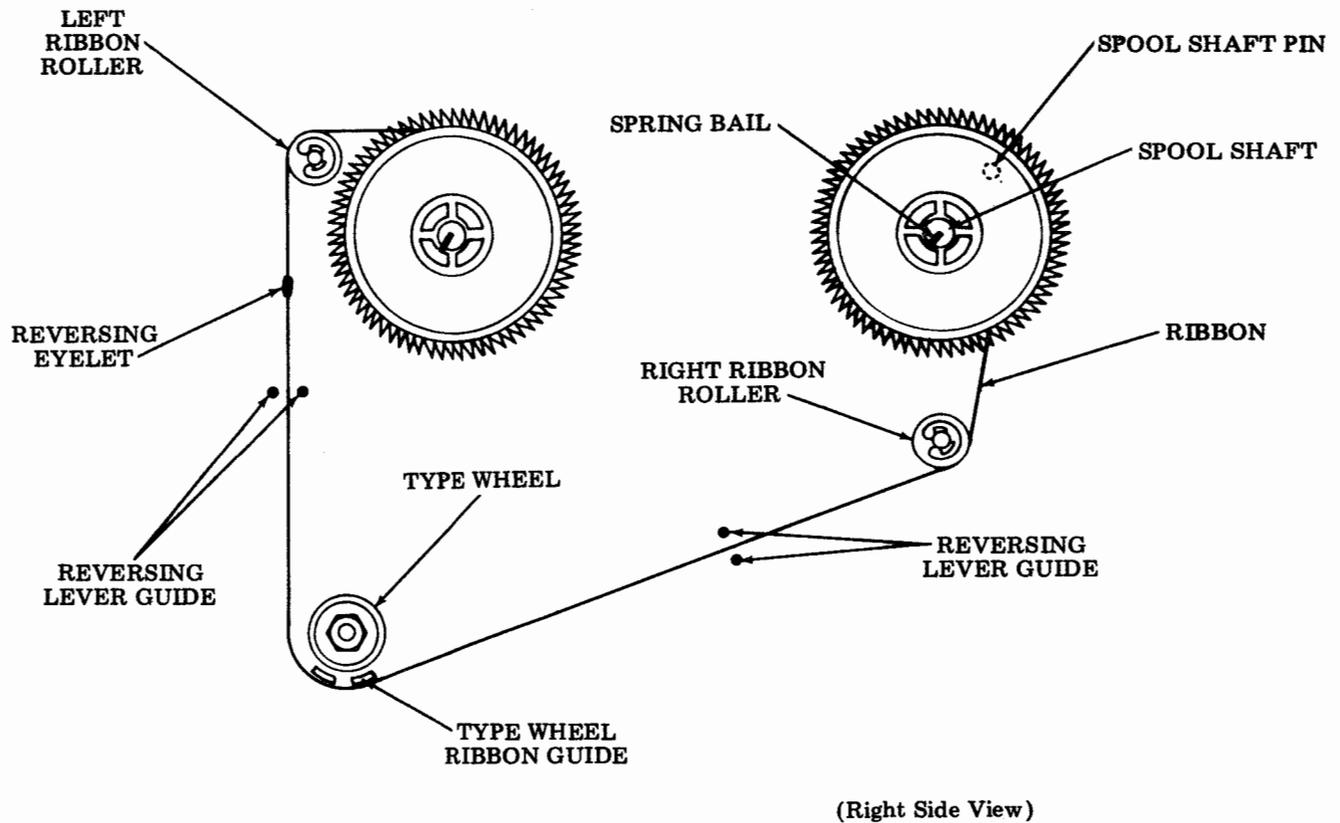

Figure 21 - Reperforator Ribbon Routing
4.29 To route the new reperfector ribbon, straighten the spring bail and lift the spool off the shaft. Remove the packaging, and reel out enough ribbon to reach the empty spool, and for three turns on the spool. Refer to Figure 21 and perform the following routing procedure: